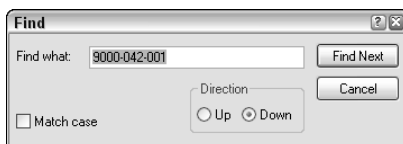

**Figure 20-7:** The Find dialog box.
2. Choose Data View ⇨ Find to open the Find dialog box, shown in Figure 20-7. (You can also right-click any cell in the column and choose Find.)